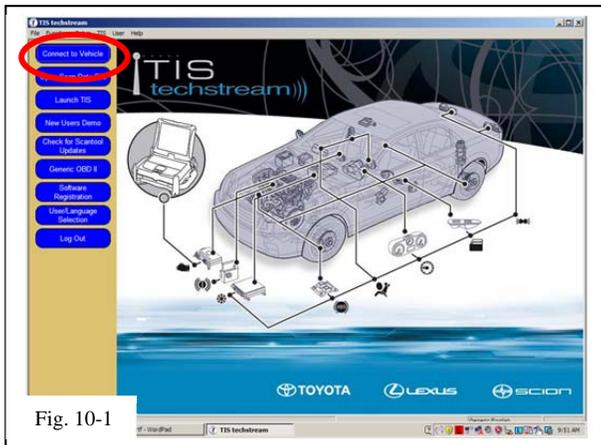

Fig. 10-1
- (e) Click **“Connect to Vehicle”** button (Fig. 10-1).